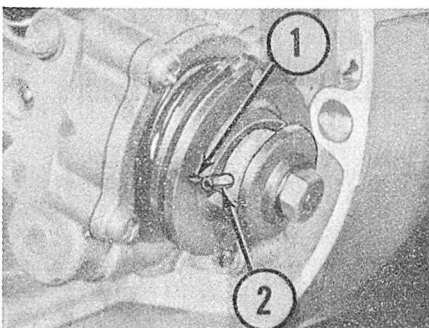
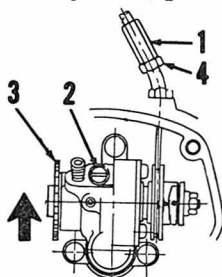

Fig. Y10-5—Mark (1) and guide pin (2) should line up with engine at idle.
Fig. Y10-6—Arrow stamped on starter plate (3) will indicate direction of rotation.
Engine lubrication is accomplished with an automatic oil metering system. Oil tank should not be allowed to run dry and only 2-stroke engine oil should be used. Oil pump must be bled if allowed to run dry. To bleed pump, remove bleeder screw (2—Fig. Y10-6) and turn starter plate (3) upward while holding throttle fully open. When air is no longer present in oil coming from hole, replace screw. Oil pump adjustment should be checked with throttle fully closed. Mark on pump adjustment pulley (1—Fig. Y10-5) and guide pin (2) should align with throttle closed. Adjust pump by turning cable adjusters.